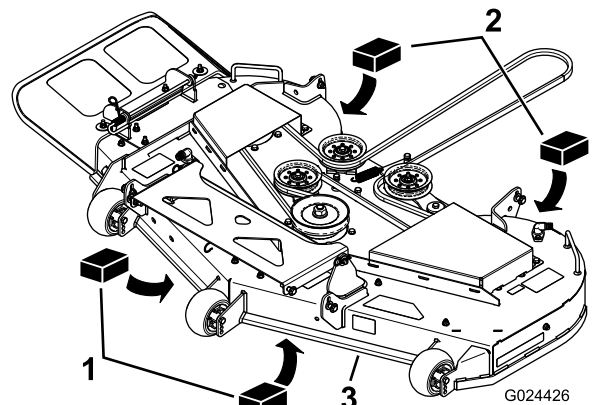

Figure 63
3. Place 2 6.6 cm (2-5/8 inches) blocks under each side of the front edge of the deck, but not under the anti-scalp roller brackets (Figure 63).
4. Place 2 7.3 cm (2-7/8 inches) thick blocks under the rear edge of the cutting deck skirt; one on each side of the cutting deck (Figure 63).